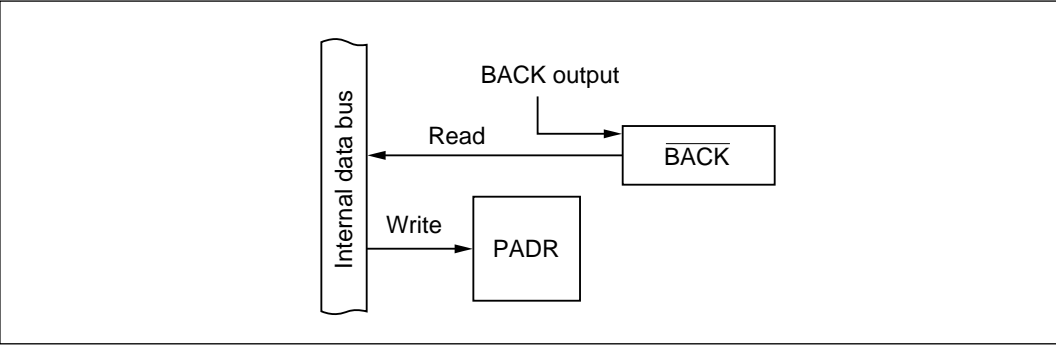

Figure 10-66 $\overline{\text{BACK}}$ Output Pin (Modes 1 to 6)
(4) $\overline{\text{BACK}}$ Pin (PA_6 ; Modes 1 to 6): Figure 10-66 shows a block diagram illustrating the $\overline{\text{BACK}}$ function. Table 10-50 indicates register read/write data. When PA_6 is used for $\overline{\text{BACK}}$ output, the value written in the port A data register (PADR) has no effect.